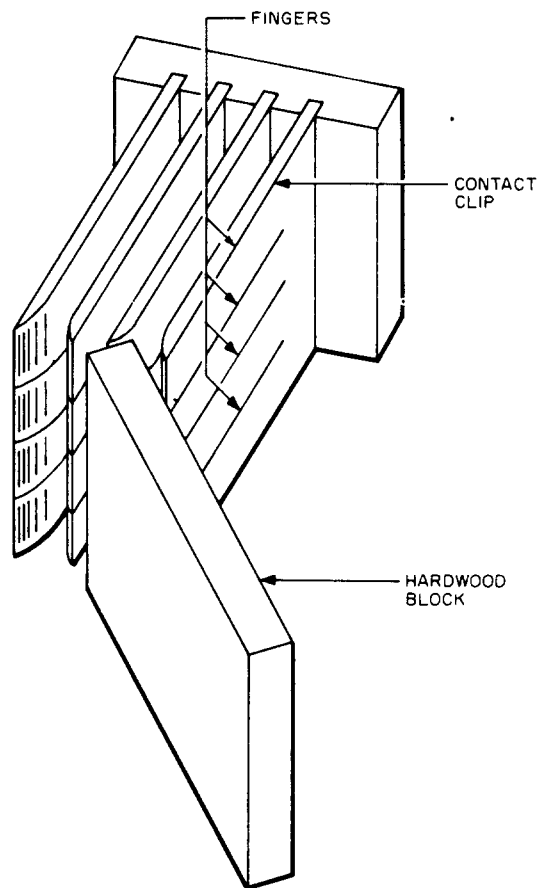

Fig. 5—Hardwood Block Positioned to Bend Contact
- (1) If the convergence of one or both contact clips in a pair is too great or too little, as indicated by binding or poor contact with the associated knife blade, bend the clip or clips slightly as follows. Referring to Fig. 5, place the end of the 3/4- by 4- by 6-inch hardwood block against the front edge of the clip so it engages all the fingers. Position the block to decrease the convergence of the clip if the clip binds or to increase the convergence if the clip makes poor contact. Then, using the hammer, tap the block to bend the clip. Take care to avoid excessive bending of the clip. Recheck the requirement and check requirements 2.05 and 2.06.